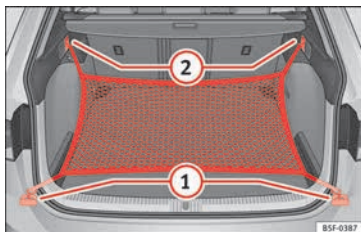

Fig. 177 In the luggage compartment: rings (1) and hooks (2) for securing the net bag (LEON ST model).
- Secure the short net hooks to the fastening rings » Fig. 177 (1) » ⚠. The bag zip should be facing upwards.
- Secure the straps in the bag hooks (2).